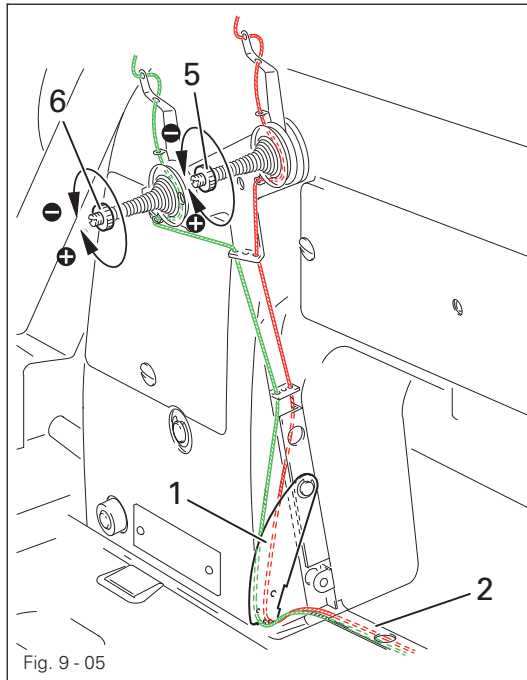

Fig. 9-05
- Thread the looper threads as shown in **Figs. 9-05** and **9-05a** and pull it under guide plate 2.